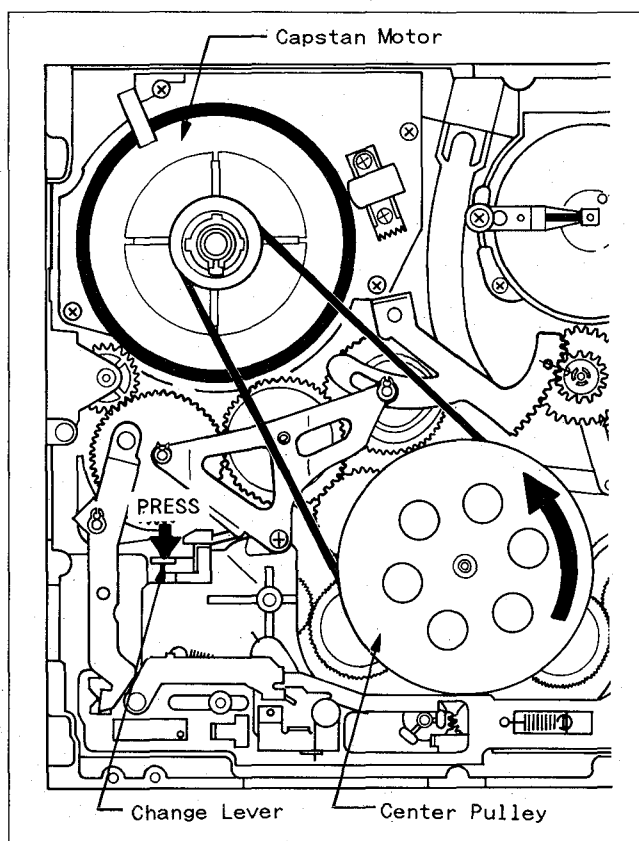

Fig. DA3
1. Press the Change Lever in the direction indicated by arrow as shown in Fig. DA3 (to release the lock).